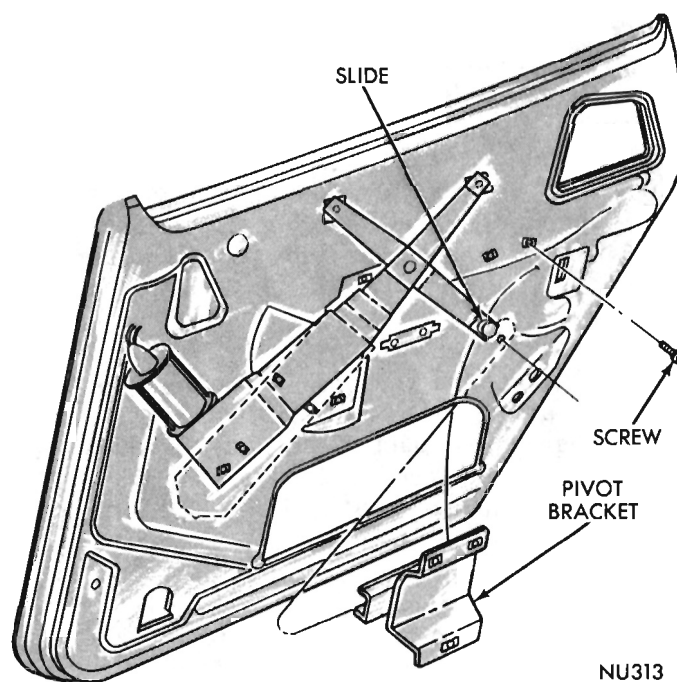

Fig. 22 - Pivot Bracket
- (1) Remove the rear door glass.
- (2) Remove pivot support bracket to door inner panel screw assemblies (Fig. 22).
- (3) Slide pivot channel off of regulator arm slide and remove pivot bracket through large access hole.